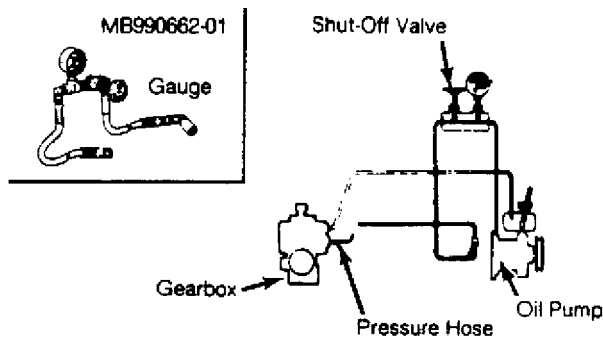

Fig. 1: Connecting Pressure Gauge & Shutoff Valve
1) Disconnect pressure hose from oil pump. Install Pressure Gauge (MB990662-01). See Fig. 1. Bleed all air from system. See HYDRAULIC SYSTEM BLEEDING. Start engine, and let it idle. Turn steering wheel several times until temperature reaches 122°F (50°C). Set engine idle speed to 1000 RPM.